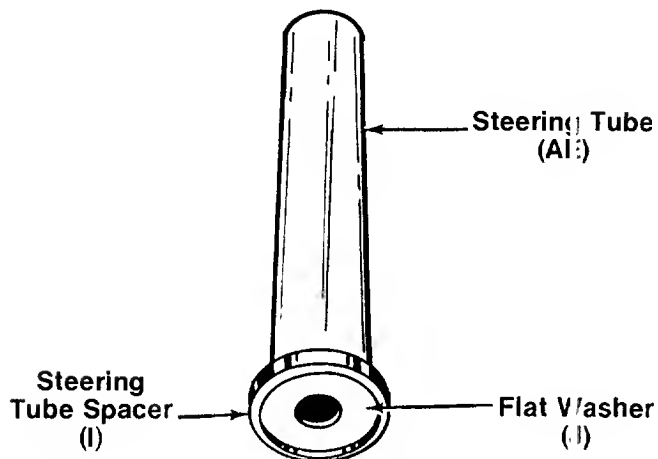

FIGURE 5.—Style A Only
2. Press the large **flat washer (J)** (1-5/8" diameter) into the open side of the black plastic **steering tube spacer (I)**. See figure 5.
3. Press the **steering tube spacer** into one end of the chrome-plated **steering tube (AE)**. See figure 5. Make certain spacer is seated securely into tube.